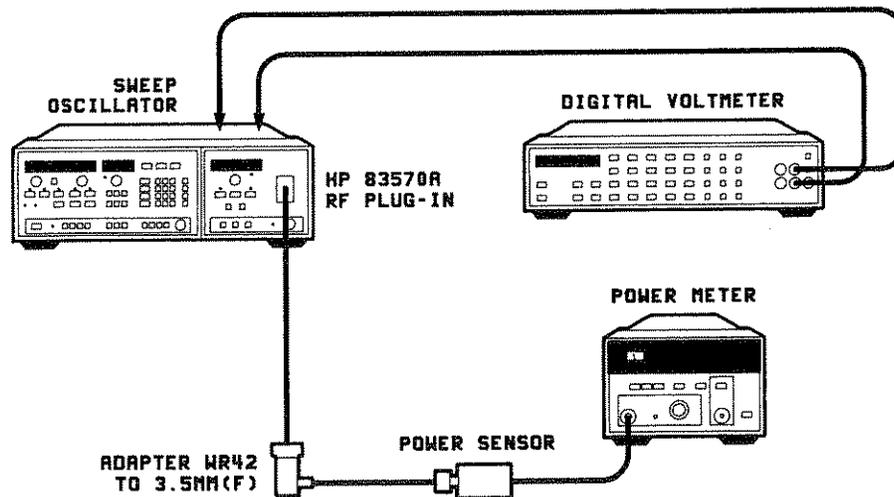

Figure 5-14. ALC Adjustment Test Setup
1. Connect the equipment as shown in Figure 5-14. Allow the equipment to warm up for 30 minutes.
10. Connect power meter sensor to RF OUTPUT as shown in Figure 5-14.